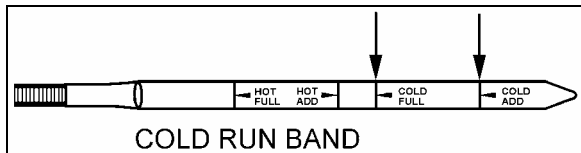

FIGURE 5: COLD CHECK 07050
2. Run the engine for at least one minute. Shift to Drive (D) and operate the engine for 30 seconds at 1000-1500 rpm; then shift to Reverse (R) to clear the hydraulic system of air. Finally shift to Neutral (N) and allow the engine to idle (500 - 800 rpm).
3. While the engine is running, remove the dipstick from the tube and wipe it clean (Figs. 5 & 6).